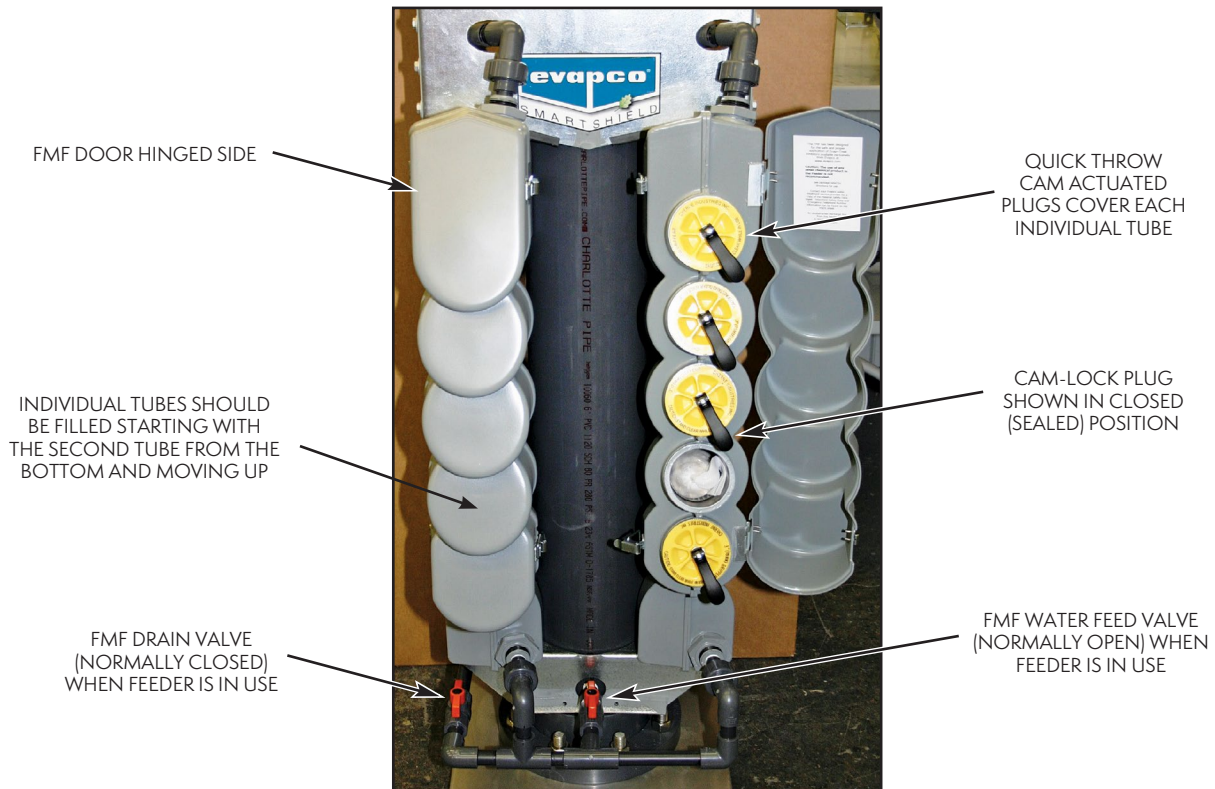

Figure 9 – FMF-10
6.2.5 Each individual **FMF** tube is designed to hold a single reload cartridge as shown in Figure 9. Loading should begin with the second tube from the bottom position and any additional required cartridges should be balanced between the left and right hand feeders.